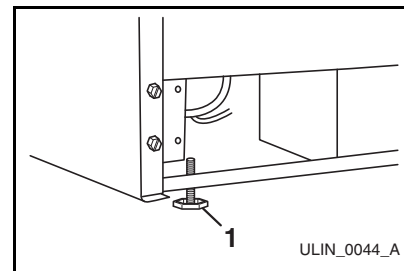

Figure 8
1. Use a level to check the levelness of the unit from front to back and from side to side. Level should be placed along top edge and side edge as shown (**Figure 8**).